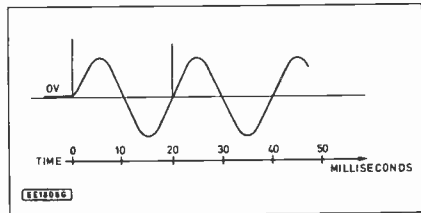

Fig. 5.14. Time dimensions of the a.c. mains supply.
20. Fig. 5.14 gives the time dimensions of the a.c. mains signal in Great Britain, what is the frequency of the waveform?